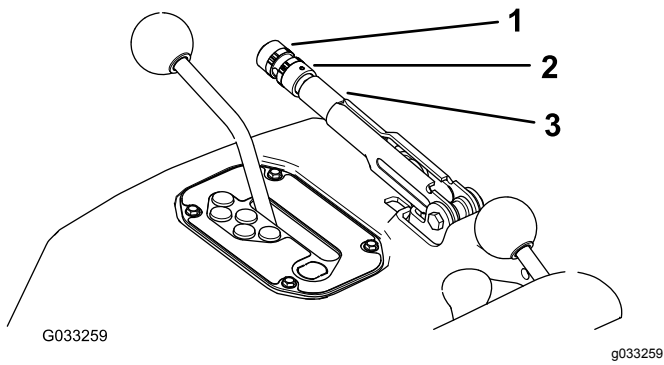

Figure 75
- Loosen the set screw securing the knob to the parking-brake lever (Figure 75).
- Rotate the knob (Figure 75) until a force of 20 to 22 kg (45 to 50 lb) is required to actuate the lever.
- Tighten the set screw when finished (Figure 75).